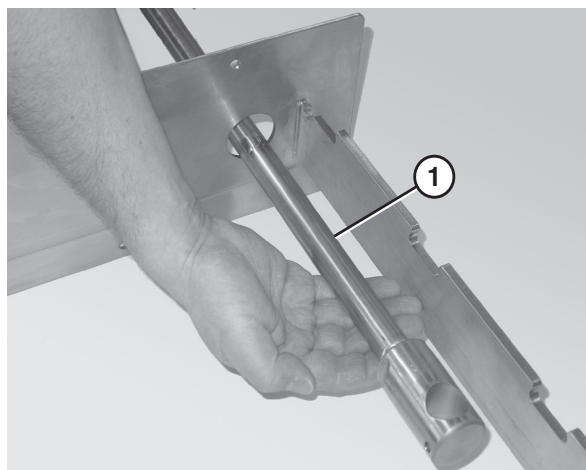

Figure 18
1. Slide the tip up shaft (Figure 18, item 1) through the designated slots in the frame.